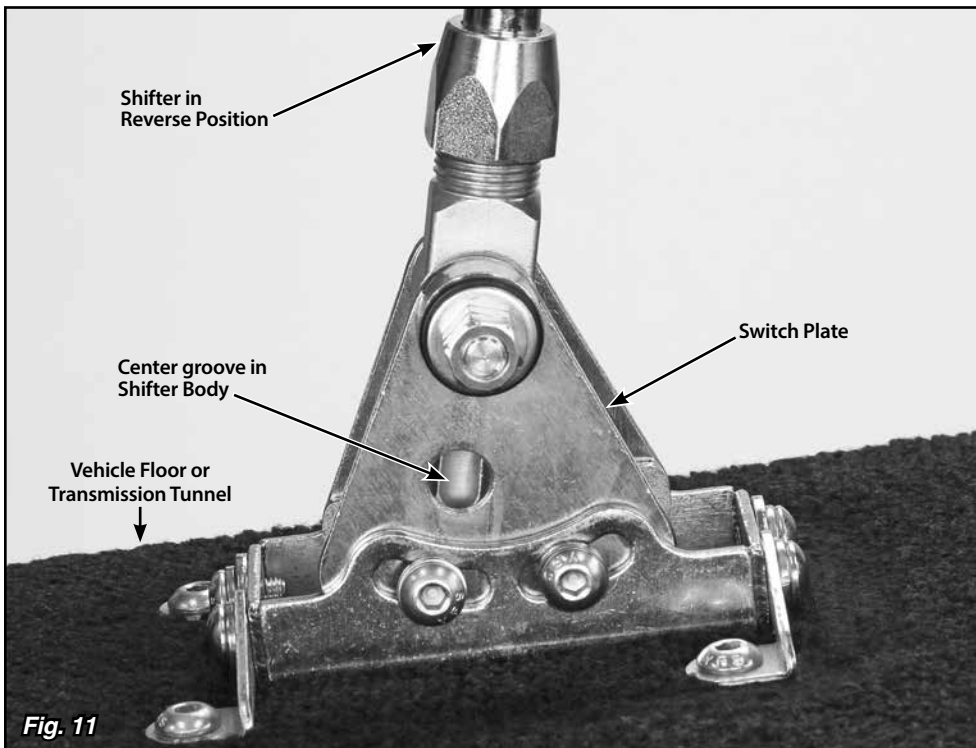
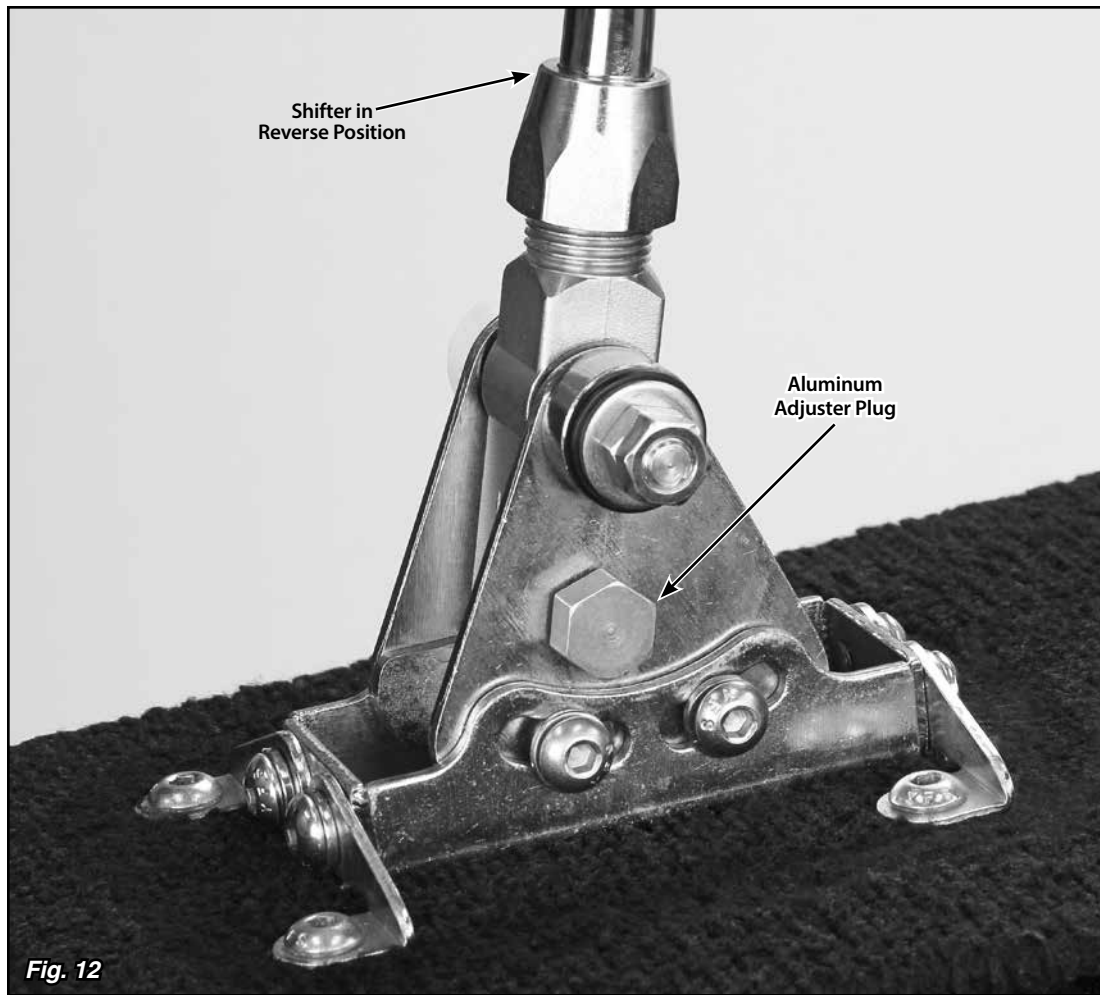

Fig. 11
Fig. 12
**Step 17:** Put the shifter into the Reverse position. Reposition the switch plate so that the hole in the switch plate lines up with the center groove in the shifter body. **Fig. 11** Screw the provided aluminum adjuster plug into the neutral safety switch opening. Wiggling the switch plate slightly forward and back while you are screwing the aluminum adjuster plug in will help get the shifter body centered on the adjuster plug. **Fig. 12**